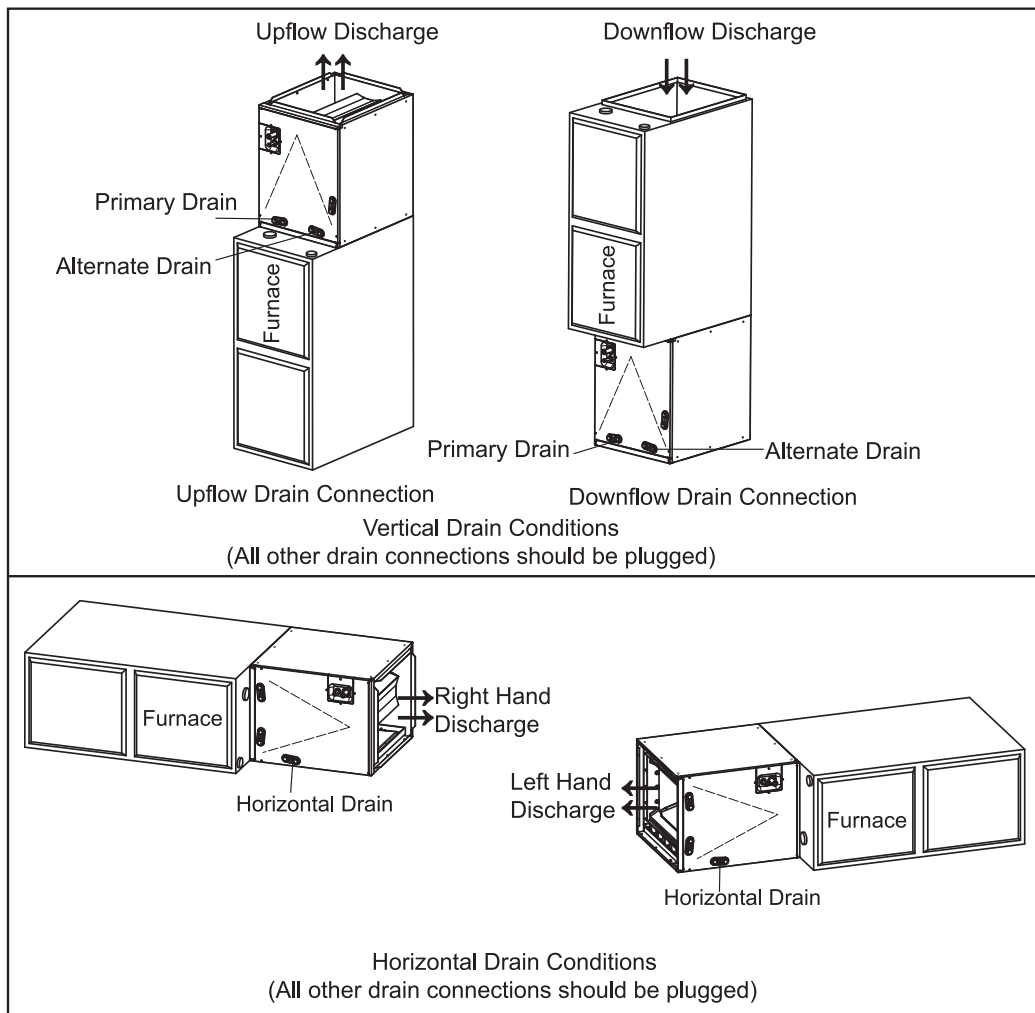

Fig. 3-1 INSTALLATION OF CASED COIL
1. See Fig. 3-1 for coil installation and drain connection.
See Fig. 3-1. In case that coil and furnace sizes are not matched, use proper size of sheet metal or other material to fill the gap and seal the gap to prevent air leak;